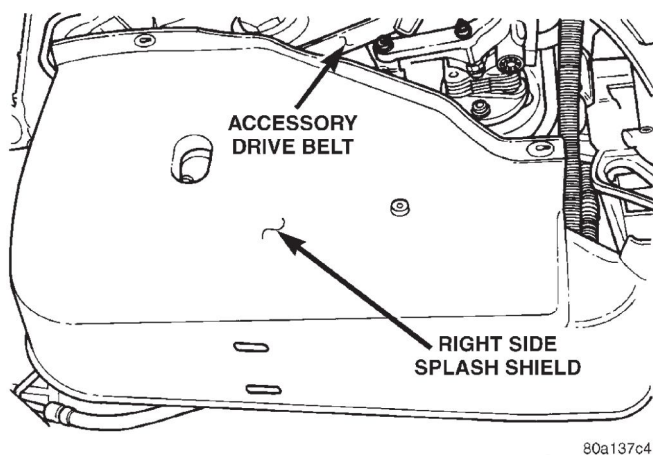

Fig. 63 Splash Shield
- (1) Disconnect the battery cable.
- (2) Raise vehicle on hoist.
- (3) Remove right splash shield (Fig. 63).
- (4) Remove accessory drive belts. Refer to Group 7, Cooling.
- (5) Remove vibration damper nut.